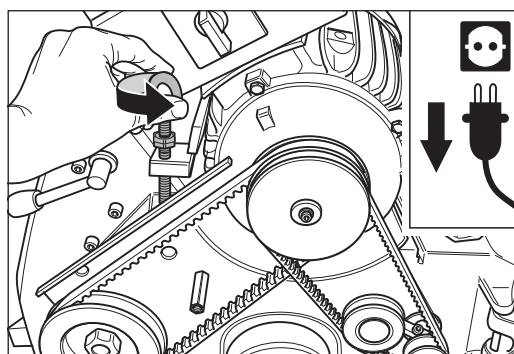

Fig. 49 Release the tension of the V-belts by turning the eye bolt at the motor counterclockwise.
- 6 Release the tension of the V-belts by turning the eye bolt at the motor counterclockwise (Fig. 49).